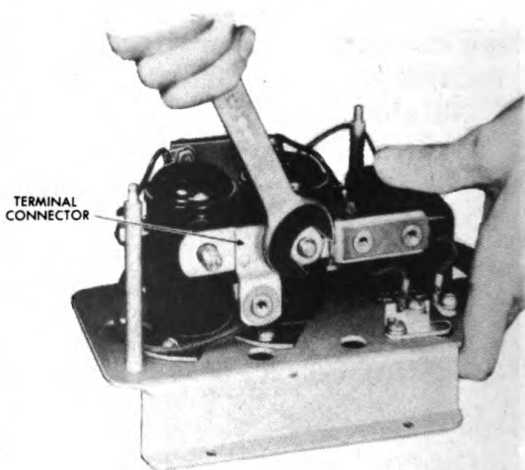

Figure 264. Removing Terminal Connector Nut.
3. Remove the lock-washers from the 3/8 - 16 solenoid terminals. Take off the nut that holds the terminal connector. See Figure 264.